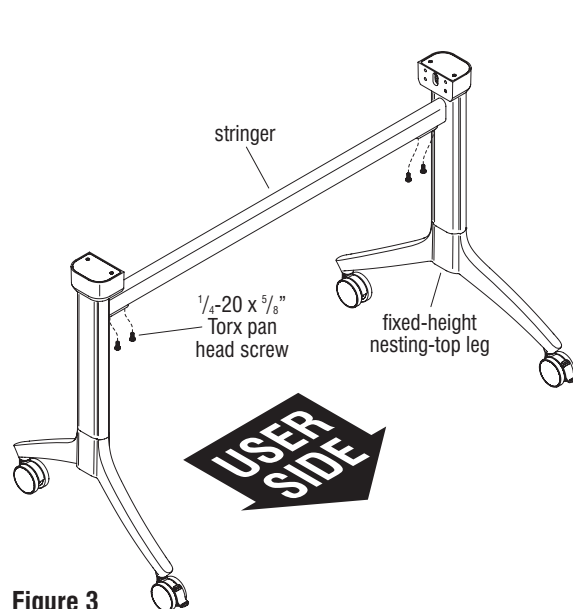

Figure 3
10. From underneath, one side at a time, align the stringer mounting holes with the stringer attachment bracket mounting holes, and secure using two 1/4-20 x 5/8" Torx screws on the underside hole locations. Repeat the step above to secure the stringer to the opposite leg's stringer attachment bracket (Figure 3 & Details C & D).